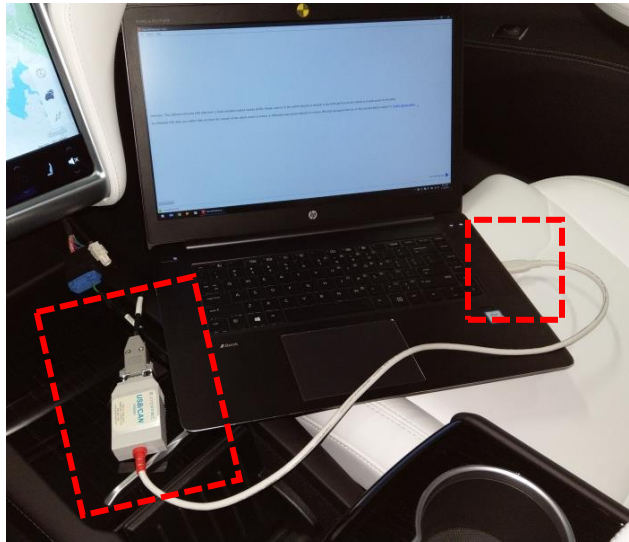

Figure 6. Computer connected to the in-vehicle EDR retrieval cable to the PCAN-USB adapter
7. Connect the PCAN-USB adapter to the computer used for retrieval (Figure 6).